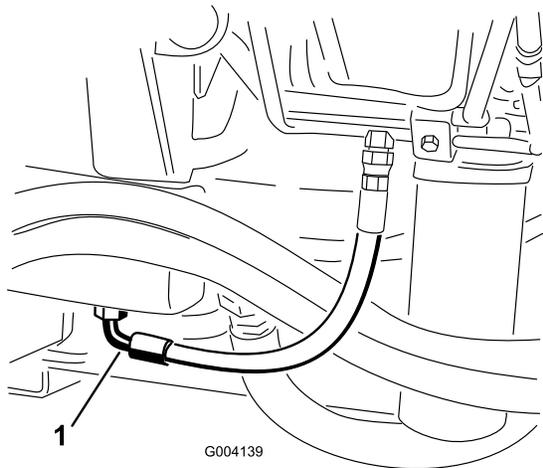

Figure 67
2. Place a large drain pan under the fitting secured to the bottom of the hydraulic-fluid reservoir (Figure 67).